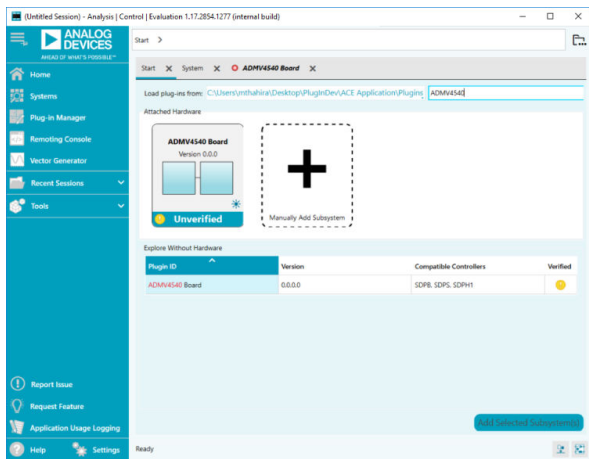

Figure 7. Attached Hardware Section when the ADMV4540 Board (ADMV4540-EVALZ Is Connected)
6. Open the ACE software. The ADMV4540-EVALZ (**ADMV4540 Board**) appears in the **Attached Hardware** section (see Figure 7). Double-click on the ADMV4540-EVALZ plug-in. If the device is turned off and on, or if the USB cable is unplugged and plugged in, while the ACE software is open, the user may lose contact with the ADMV4540-EVALZ. If this happens, go to the **System** tab, click the **USB** symbol on the **ADMV4540 Board** subsystem, and then click **Acquire** to establish SPI communication with the ADMV4540-EVALZ again.